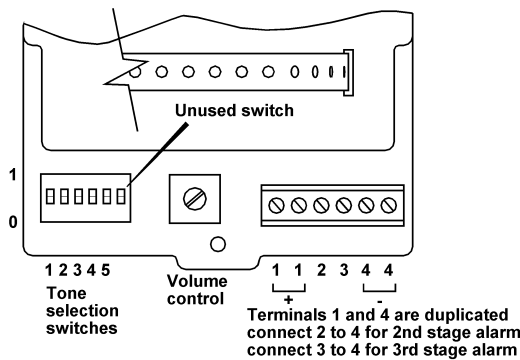

Fig 3 Location of field terminals and controls.
- c. Fit an appropriate 20mm cable gland or conduit entry into the untapped hole in the enclosure and connect the field wiring to the appropriate sounder terminals as shown in Fig 3. The power supply terminals + and - are duplicated so that sounders may be connected in parallel, or an end-of-line monitoring resistor may be fitted.
- d. Select the required output tone by positioning the six switches as shown in Table 1 and Fig 3.